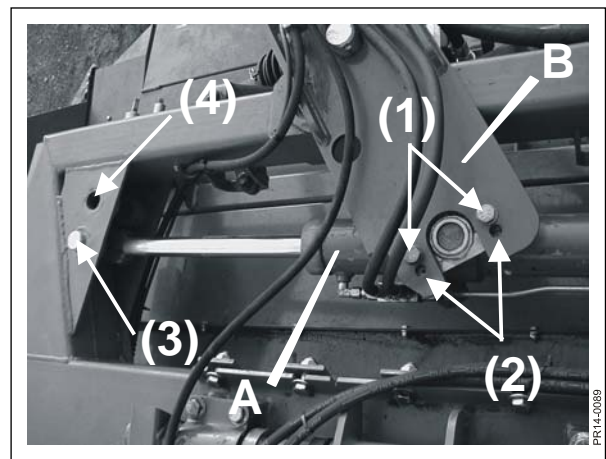
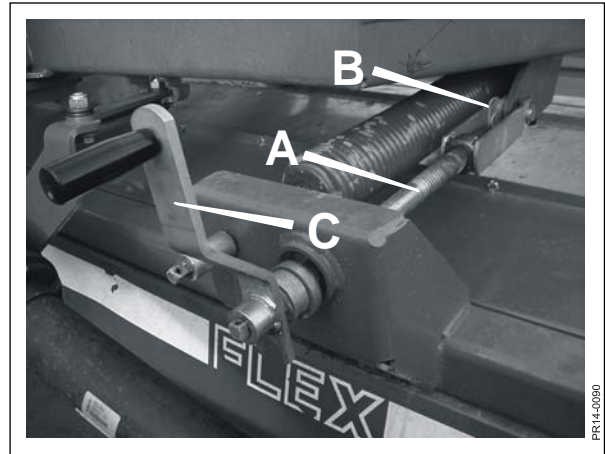

Fig. 3-10
Fig. 3-12
Fig. 3-10 The drawbar cylinder **A** can be mounted in 2 positions on the drawbar **B**. The position determines the swing of the drawbar. From the factory the cylinder is mounted in position **(1)** which gives the smallest overlap.
Fig. 3-10 At the opposite end the cylinder is mounted in position **(3)**. The other mounting hole, position **(4)** is **ONLY** intended for driving with asymmetric guards where the swing of the drawbar is different to the left and right hand side.
Fig. 3-12 The adjustment of the stubble height is made by adjusting the inclination of the cutterbar via the 2 spindles **A**. Remove the split pin **B** and turn the spindles **A** with the handle **C**. After adjusting, mount the split pin **B** as it secures the adjustment.
- By loosening the horizontal Top Safe springs a little (see fig. 3-12) and tighten the vertical springs a little (see fig. 3-10).